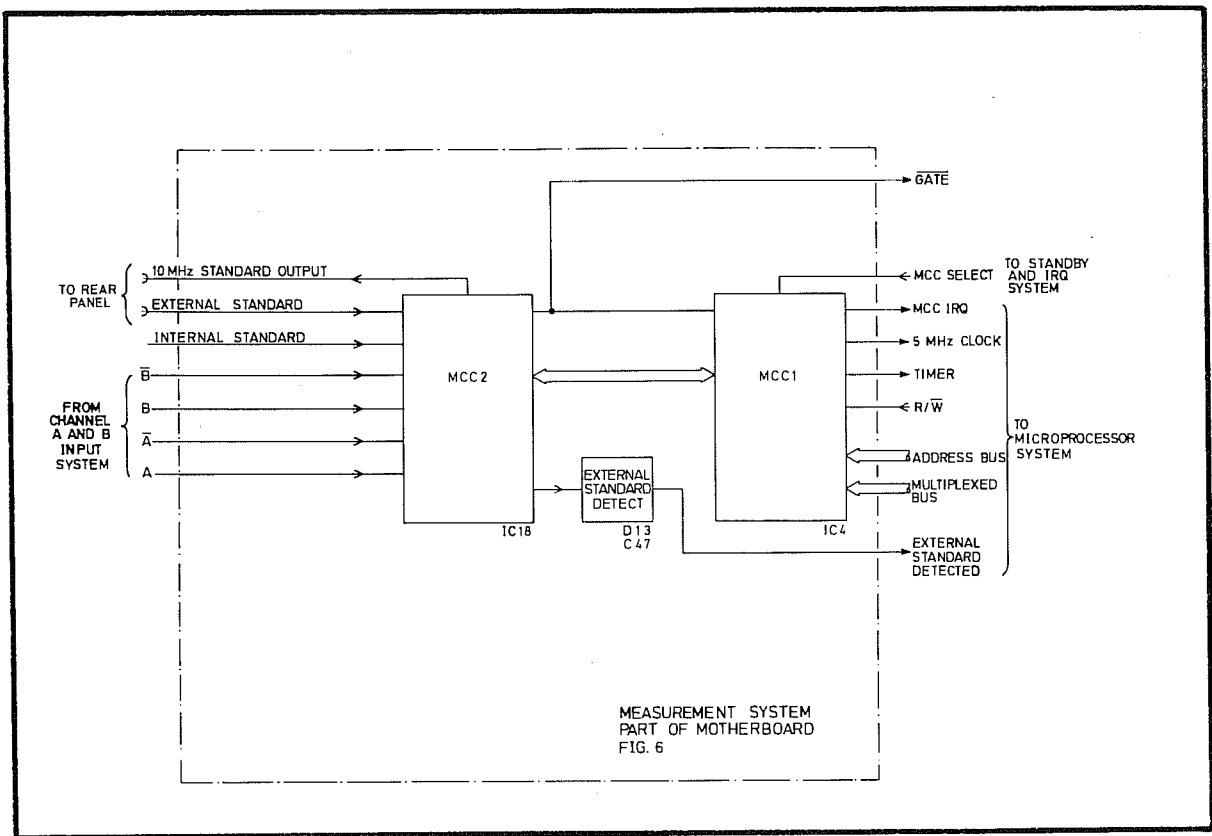

Fig 6.3 The Measurement System
- 27 The measurement circuits of the instrument are provided by two custom-built integrated circuits. These are the Multiple Counter and Control (MCC) circuits, MCC1 and MCC2. A block diagram is shown in Fig 6.3.